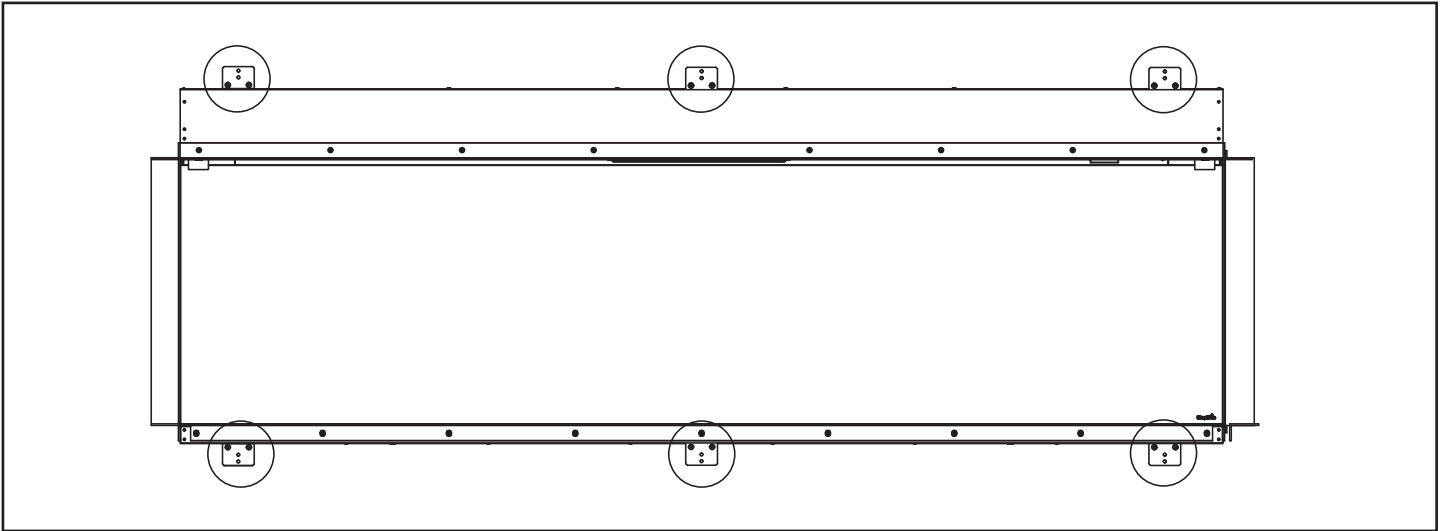

Figure 4.4 Mounting Brackets
1. Fold out the six mounting brackets. See Figure 4.4.